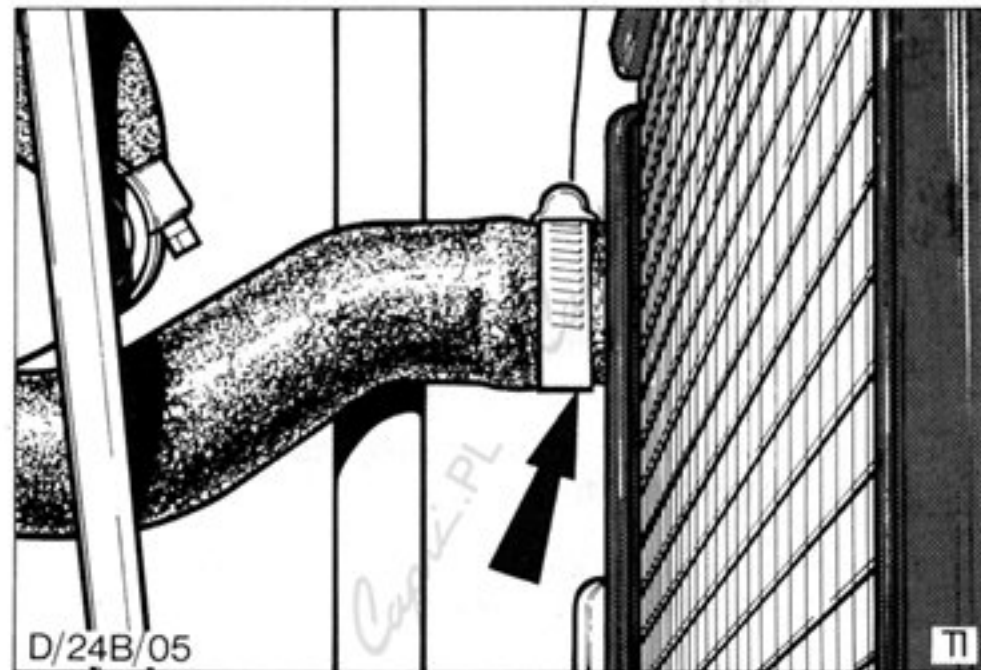

Fig.17. Radiator bottom hose retaining clip (fan shroud removed for clarity).
4. Loosen radiator bottom hose retaining clip, Fig.17, slide hose from radiator and drain coolant. To assist draining remove radiator cap.